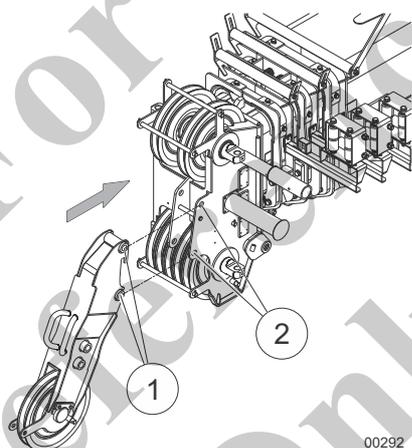

Fig. 244 Lifting the auxiliary jib to the telescopic boom
6	Bring the auxiliary jib (1) in Fig. 244 to the boom pulley head (2) in Fig. 244 and attach it.